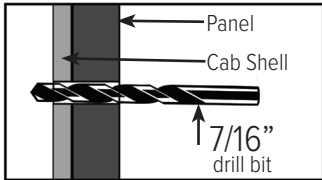

Figure 1.1
1.1 Drill a 7/16" hole in the cab shell at each panel hole location as shown in Figure 1.1.